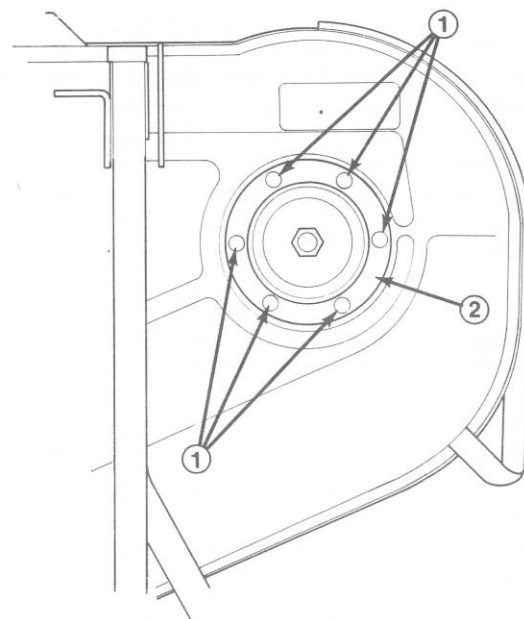

Figure 48
5. Remove six carriage bolts and flange nuts holding spindle housing assembly and support ring against cutting unit (Fig. 48). Slide spindle housing assembly out bottom of cutting unit.
9. Slide pulley end of spindle assembly through hole in cutting unit. Mount spindle assembly in place with support ring and six carriage bolts and flange nuts (Fig. 48).